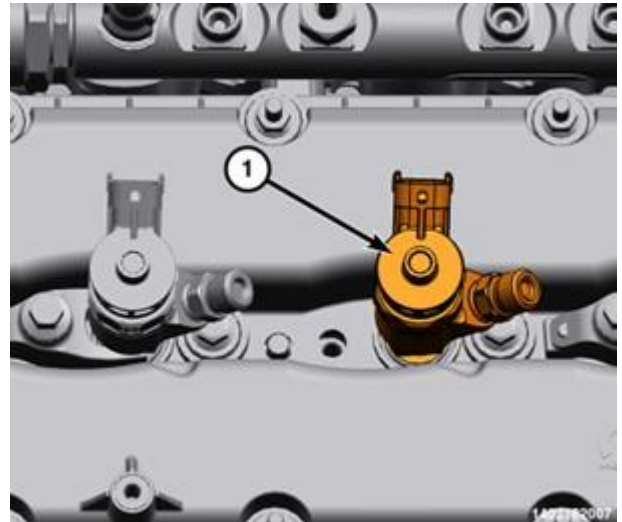

Figure 47 – Fuel Injector Bolt
88. Using your hand, pull the fuel injector (1) straight up from the cylinder head for removal. Discard the lower sealing washer and place a protective cap over the nozzle and injector bore (Figure 47).